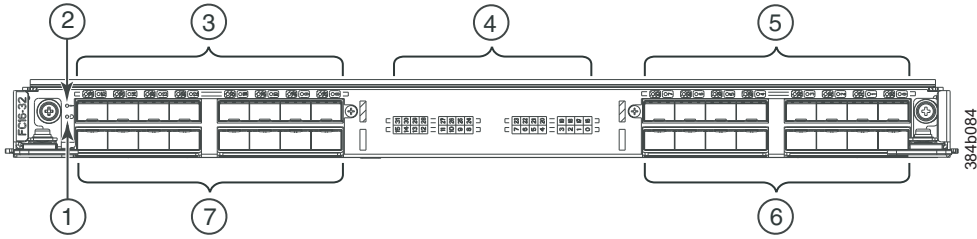

Figure 57. FC16-32 port blade
- Figure 57 on page 162 shows an FC16-32 port blade